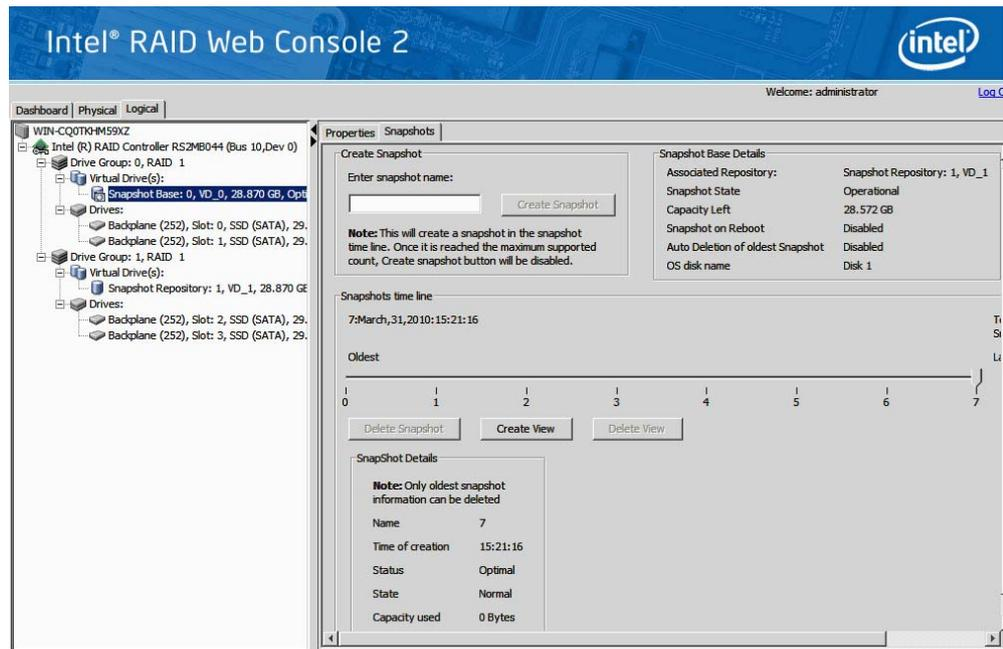

Figure 157. Create Snapshot
23. After snapshots are successfully created (in step 12, Figure 157), following steps roll back to a snapshot at a previous Point in Time (PiT).